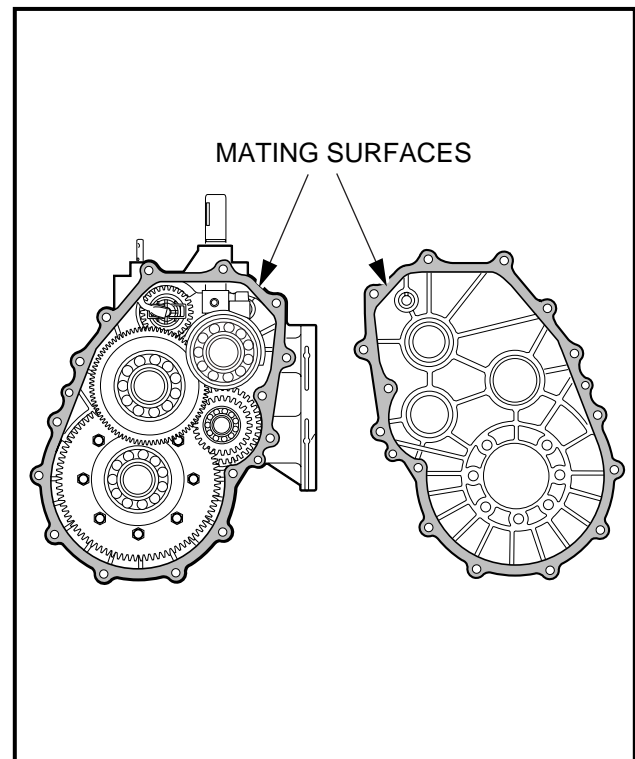

Figure 16-88 Prepare Mating Surfaces
9. Apply a continuous bead of Three Bond No. 1215 (CCI 101928701) sealant to the mating surface, around the complete profile of the right (passenger side) case (**Figure 16-88, Page 16-36**). **See following CAUTION.**